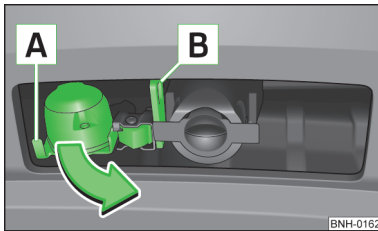

Fig. 13
- Grip the 13-pin socket on the handle  and swing out in the direction of arrow » Fig. 13.
- Grip the 13-pin socket on the handle  and swing in the opposite direction to the arrow » Fig. 13.
The purpose of the safety eye  » Fig. 13 is to attach the breakaway cable of the trailer.